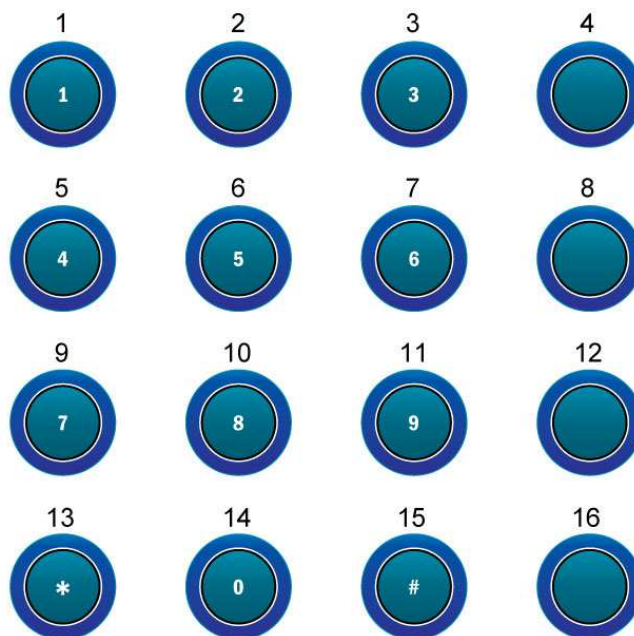

Figure 3-2 Button Location
The table below lists the truth table for the 4x4 (16) button solutions. The dots indicate the connected terminals corresponding to the row and column LEDs illustrated above. The associated button location (1-16) is shown in **Figure 3-2**. The following GPO pins (GPO_0-GPO_7) share pin connection with LED column and row pins (LED-COL1-LED--COL4, LED-ROW1-LED--ROW4).